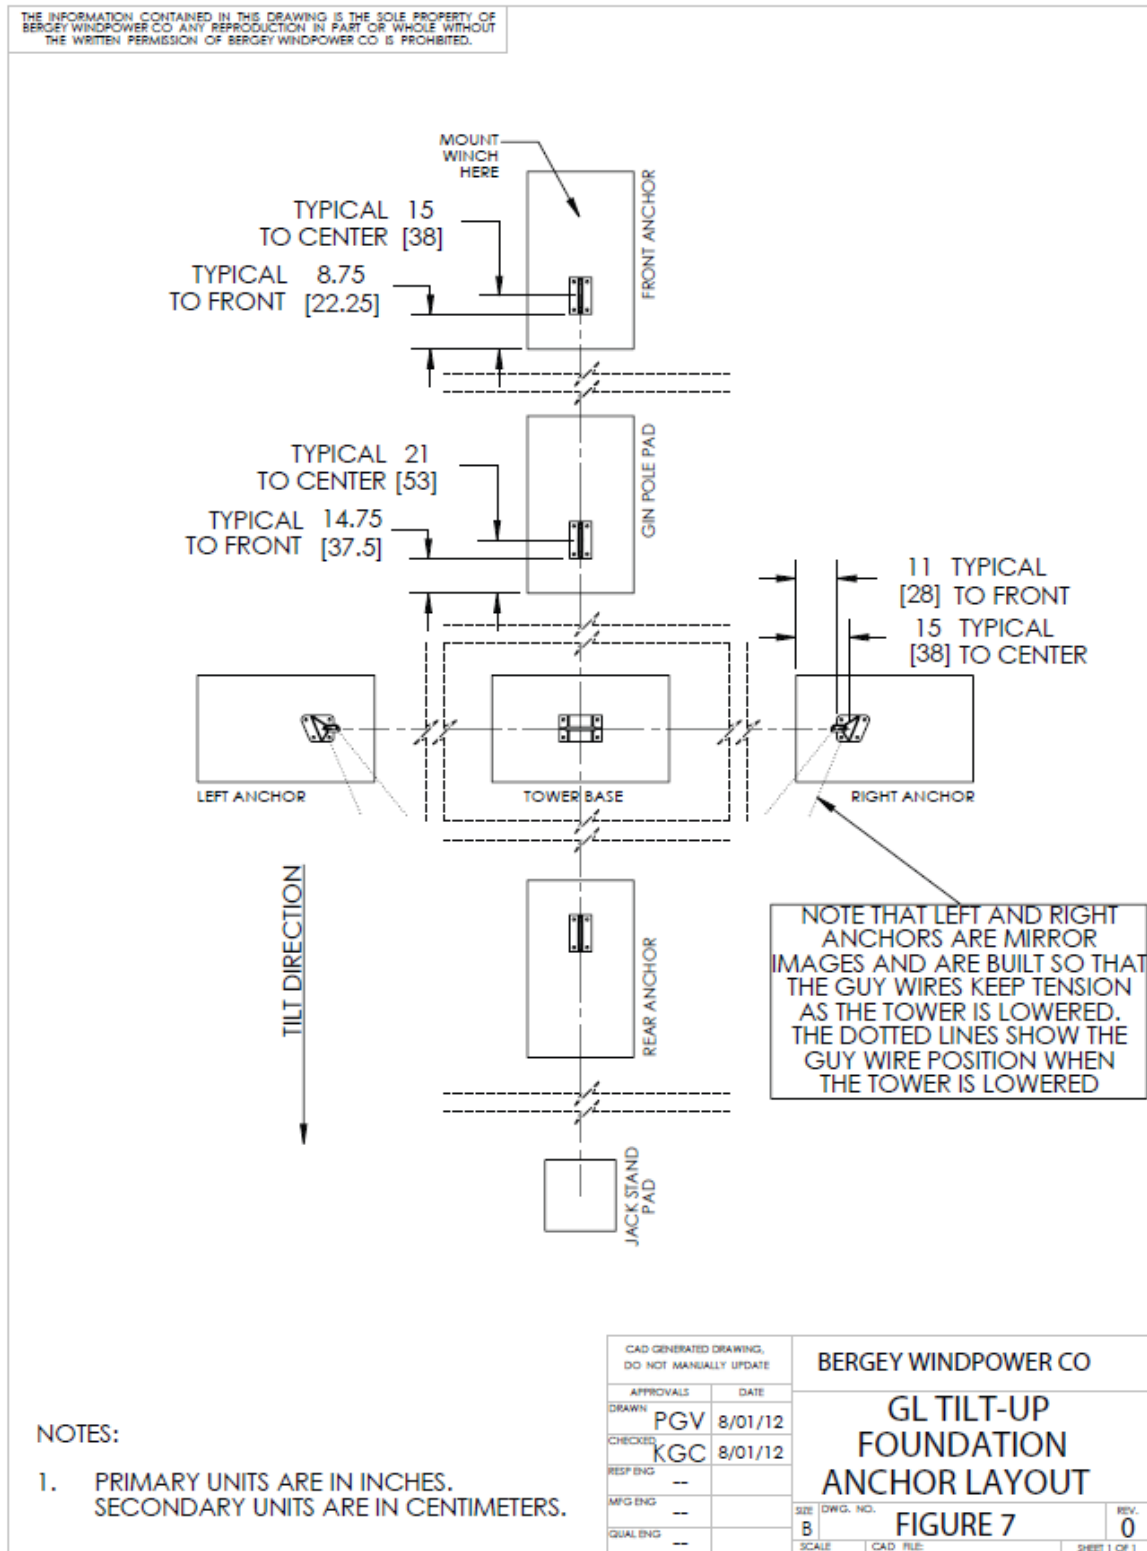

Figure 7: Anchor Bracket Layout Summary
4. Layout of anchor and base brackets is shown in **Figure 7**.
5. Use a magic marker to lay out cross lines through these chalk lines where anchor brackets and the base bracket will be centered. Anchor brackets will be centered 18" from the "inner" edge of pads, base bracket will be centered on the base pad. (It may be easier to mark pads 2 and 4 14" from the inner pad face, for side anchor brackets, and 12" from the inner face for fore/aft brackets as shown in **Figure 7**. The front edges of the anchor brackets can be set on these lines. Be sure the brackets are aligned properly.